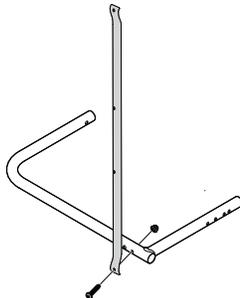

Figure 3
- Lay one corner tube on a firm, level surface as shown in Figure 3.
- For the left frame assembly, align one upright tube with the corner tube using the mounting hole and secure with one pan head screw and one hex nut as shown in Figure 3.